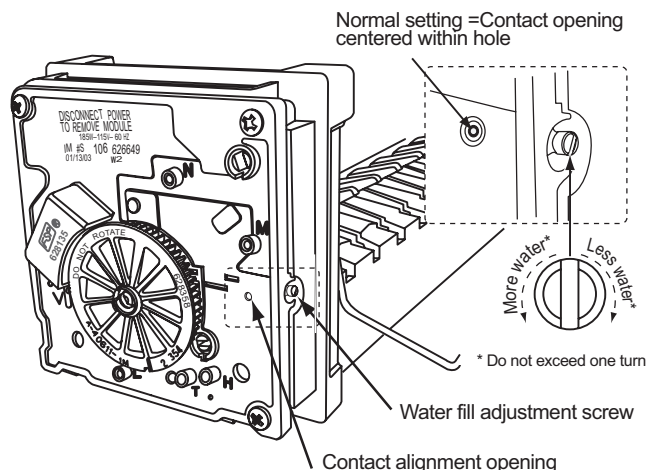

Figure 55. Water Fill Adjustment Screw
5. Locate the screw and contact alignment opening shown in Figure 55.
- Determine the position of the hole in the internal contact plate. *Do not adjust the water fill adjustment screw if the hole is centered within the housing hole.* See Figure 55.
- To readjust the water fill level turn the adjustment screw clockwise or counterclockwise as required until the contact hole is centered in the module hole. See Figure 55.